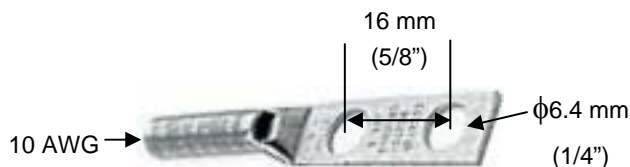

Figure 15: Compression Grounding Lug
WARNING Before connecting power to the switch, make sure that both grounding posts in the rear panel are firmly connected to a reliable ground through a #10 AWG grounding wire terminated by a UL-listed two-hole long-barrel 5/8 10 AWG compression lug with hole size and spacing as shown in Figure 15 below.
1. Prepare a minimum #10 AWG grounding wire terminated by a crimped two-hole lug with hole diameter and spacing as shown in Figure 15. Use a suitable crimping tool to fasten the lug securely to the wire. Adhere to your company's policy as to the wire gauge and the number of crimps on the lug.